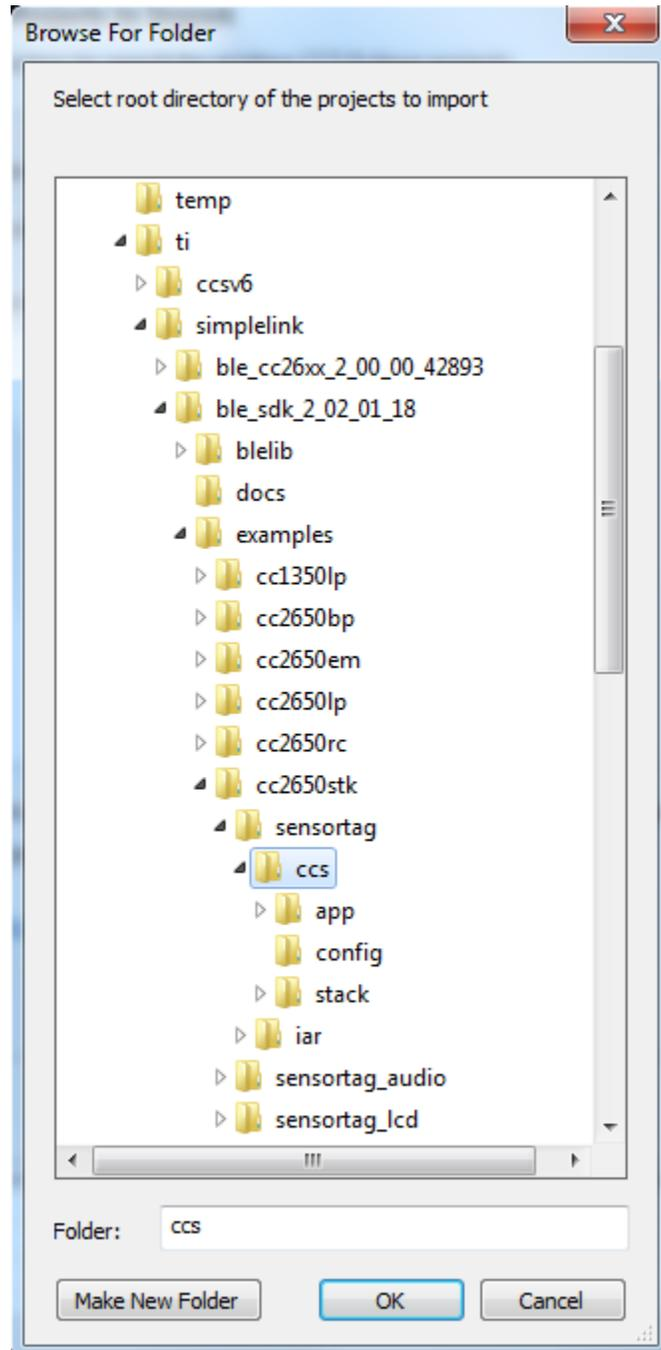

Figure 29, DEV-BLE-TI Project Location
- f. Navigate to <TI home directory (default: C:\ti)>\simplelink\ble_sdk_2_02_01_18\examples\cc2650stk\sensortag\ and select the ccs folder (Figure 29). Click OK